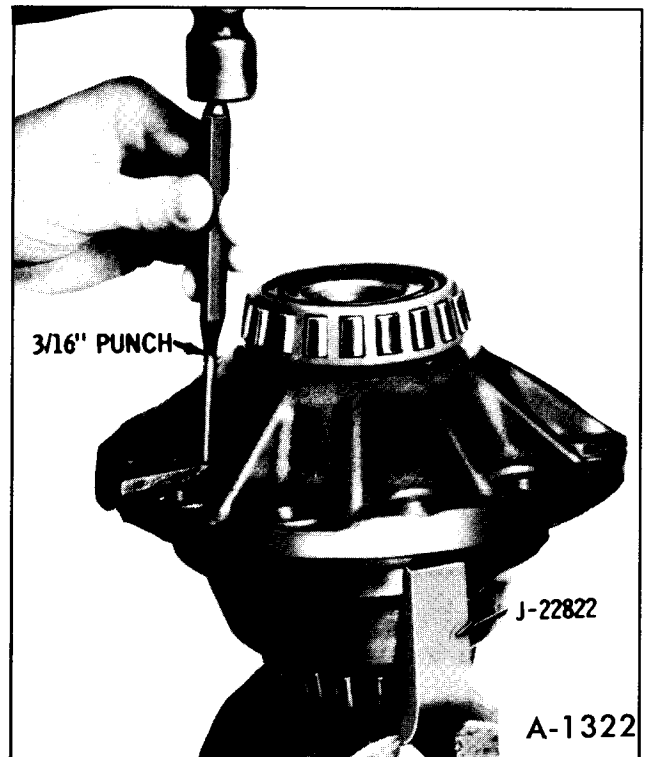

Figure 34—Removing Lock Pin From Pinion Shaft
5. Drive lock pin from pinion shaft with a 3/16" punch (figure 34).